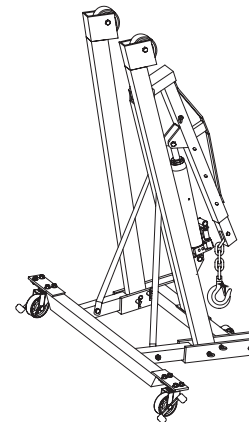

Fig. 2 - Engine Crane Storage Position
**Instruction on how to transform the crane into storage position: (see Fig. 2)**
Refer to Fig. 2 on page 3 for detail storage instruction.